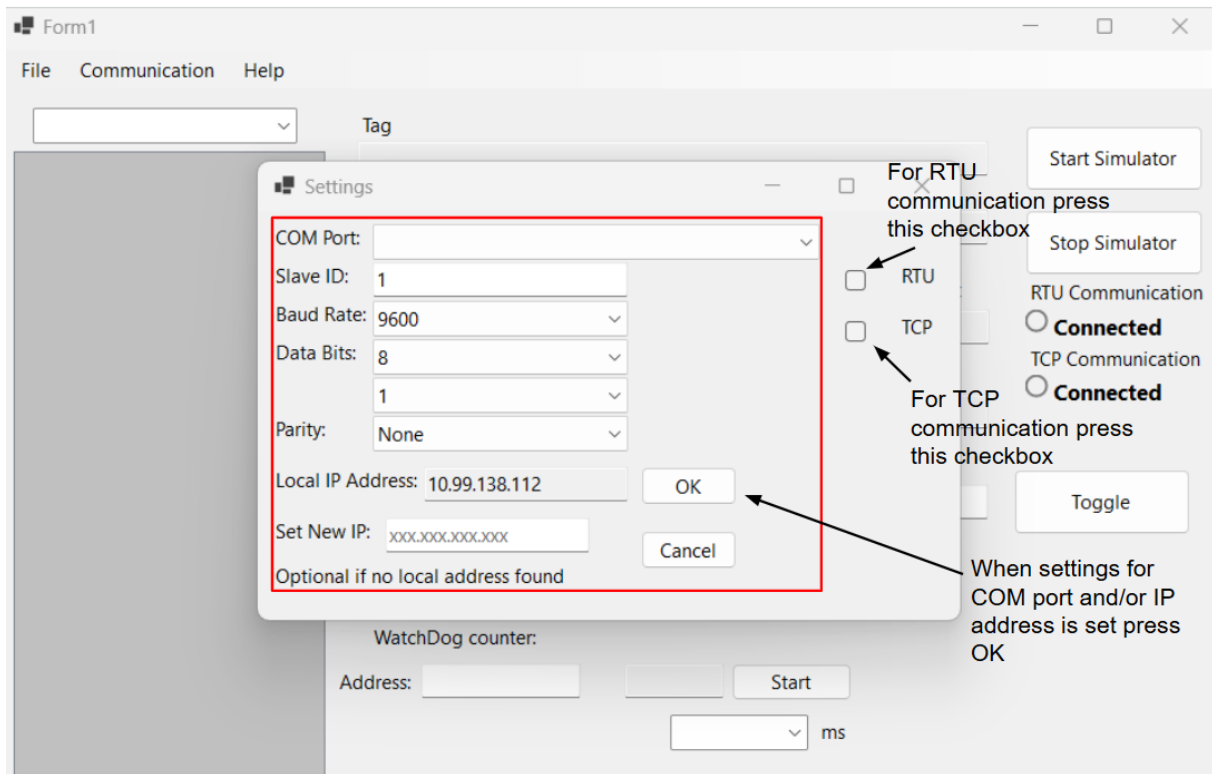

Figure 3 – Configuring the COM port and IP address
2. Configure the different parameters shown in figure 3